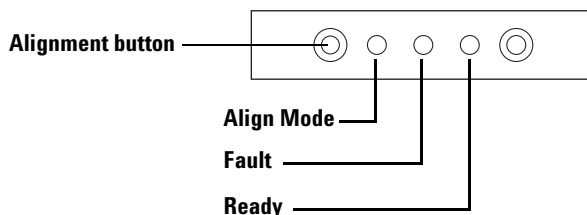

Figure 73 Align the sample tray
- 1 Use a long, narrow object (such as a pen tip) to press the recessed Alignment button to the left of the indicator lights. Avoid contact with anything behind or around the button inside the recessed hole (Figure 73).